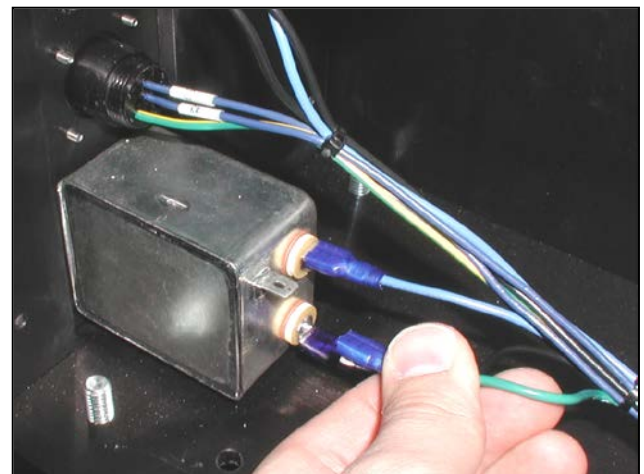

Figure 3-42. Remove three spade connectors
5. Detach the three spade connectors from the Line Filter (Figure 3-42).